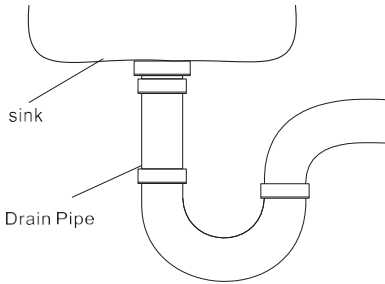

Figure 2
B. Disconnect the sink from the drain pipe (see Figure 2).